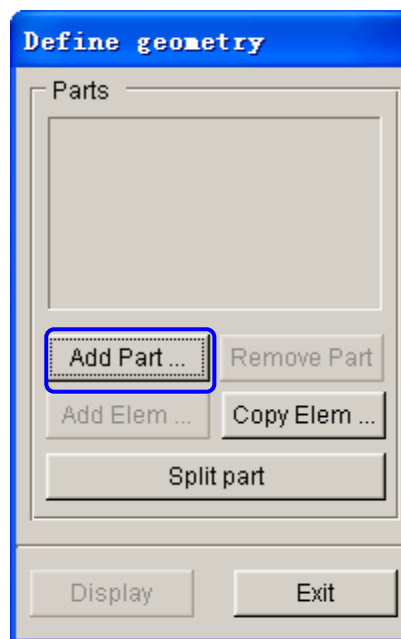

Figure 3.8 Define geometry dialog box
3. The DEFINE GEOMETRY dialog box illustrated in Figure 3.8 is displayed.